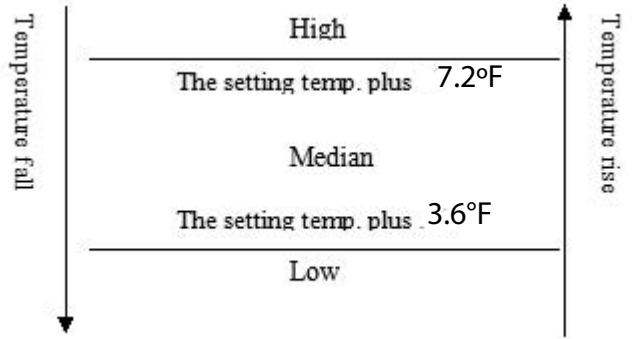

Figure 303
(1) When the indoor fan is running, this operation state could be controlled by the remote control with High, Medium, Low and Automatic setting.
(2) When the appliance is set to the automatic condition in the Cool mode for the first time, the fan speed will run at Low setting. After that, temperature and fan speed will run as shown in figure 303. When the difference between the setting temperature and the room temperature is between 3.6°F and 7.2°F, the indoor fan speed will keep the current speed.